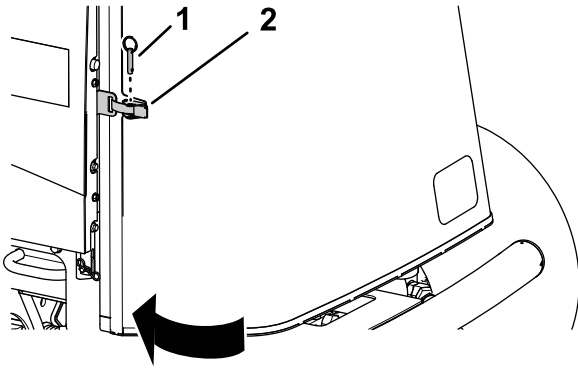

Figure 96
1. Close and latch the screen (Figure 96).